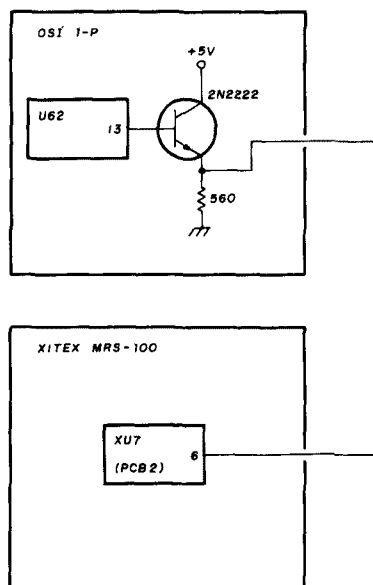

fig. 1. The display is echoed in Morse code.
Referring to the schematic of **fig. 1**, you will note a full-wave bridge circuit. This may not be consistent with the secondary voltage of your transformer. You
There are a number of circuits that will prevent this from happening. The one I prefer is to place a heating element in series with one side of the high-voltage transformer primary. This added resistance absorbs inrush current. This resistor in my supply (R1 in fig.1) is shorted out by the relay contact of RY4 about a half second after RY2 activates. The timing of this half second is controlled by the time constants of the resistors and capacitor in the base circuit of the 2N2222 transistor. I believe these resistor elements can be purchased at most electrical supply houses and are available in both 120- and 240-volt versions. A very heavy duty relay (RY2) should be used in the high-voltage transformer primary circuit. A third set of contacts on this relay is used to furnish 24 volts to other parts of the circuit at the proper time.
Referring to fig. 1, let's follow carefully through the complete sequence of events that occur when the main power switch is thrown. Activating the main power switch, S1, applies 120-volt and 240-volt single phase power to the supply. One hundred twenty volts is immediately applied to the 24-volt dc relay supply and blower. The air flow switch comes on, activating RY1. One set of RY1's contacts apply 120 volts primary power to tube-heater transformer T2, and a pilot light on the rf deck indicates the heaters are on. Resistor R2 in the transformer primary is used to adjust the voltage at the tube heater pins to the correct value. A second set of RY1's contacts makes 24 volts dc available at various relay coils and contacts, including the high-voltage primary relay RY2. RY3's field coil and contacts receive 24 volts, but the relay does not activate at this time.
From WD8DTL we borrowed a Xitex MRS-100 Morse-code transceiver and connected it to the OSI as in fig. 1; the computer and Xitex now communicated through TTL levels.
5. Connect a 1-watt, 100-ohm resistor between the two white wires just removed and the AUD OUT terminal (fig. 1). Use insulation tubing.